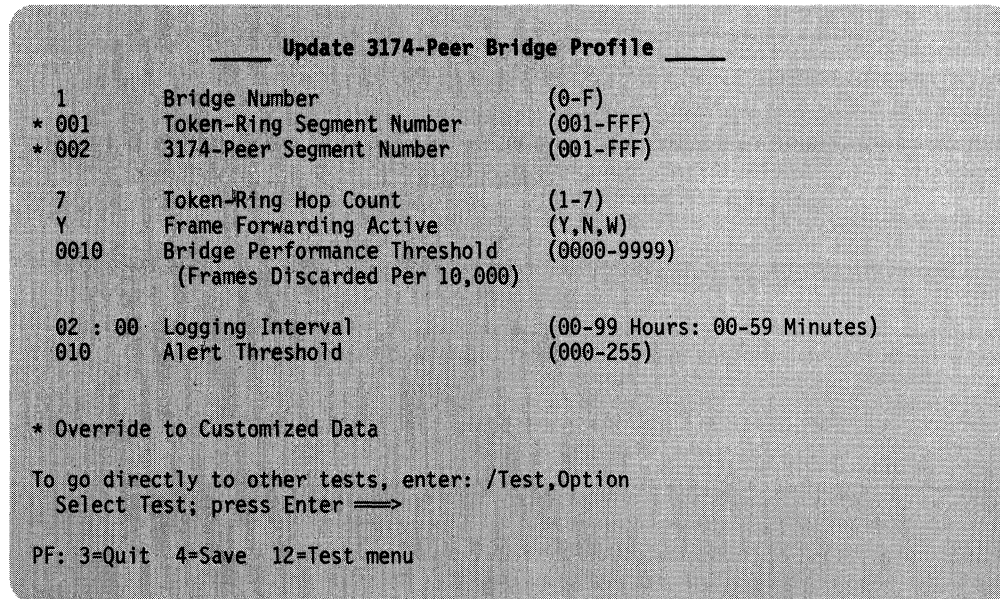

Figure 4-50. Example of a 3174-Peer Bridge Profile
**Test 9, Option 10,u (u=update):** Displays the 3174-Peer Bridge Profile panel and can be run either in display mode or in update mode. To invoke the test in display mode, do not enter the **u**; enter the **u** for update mode. If you invoke the test in update mode, you will be prompted for the password that was set up in configuration question 98. You must have this password to enter update mode. Figure 4-50 shows an example of the 3174-Peer Bridge Profile panel.